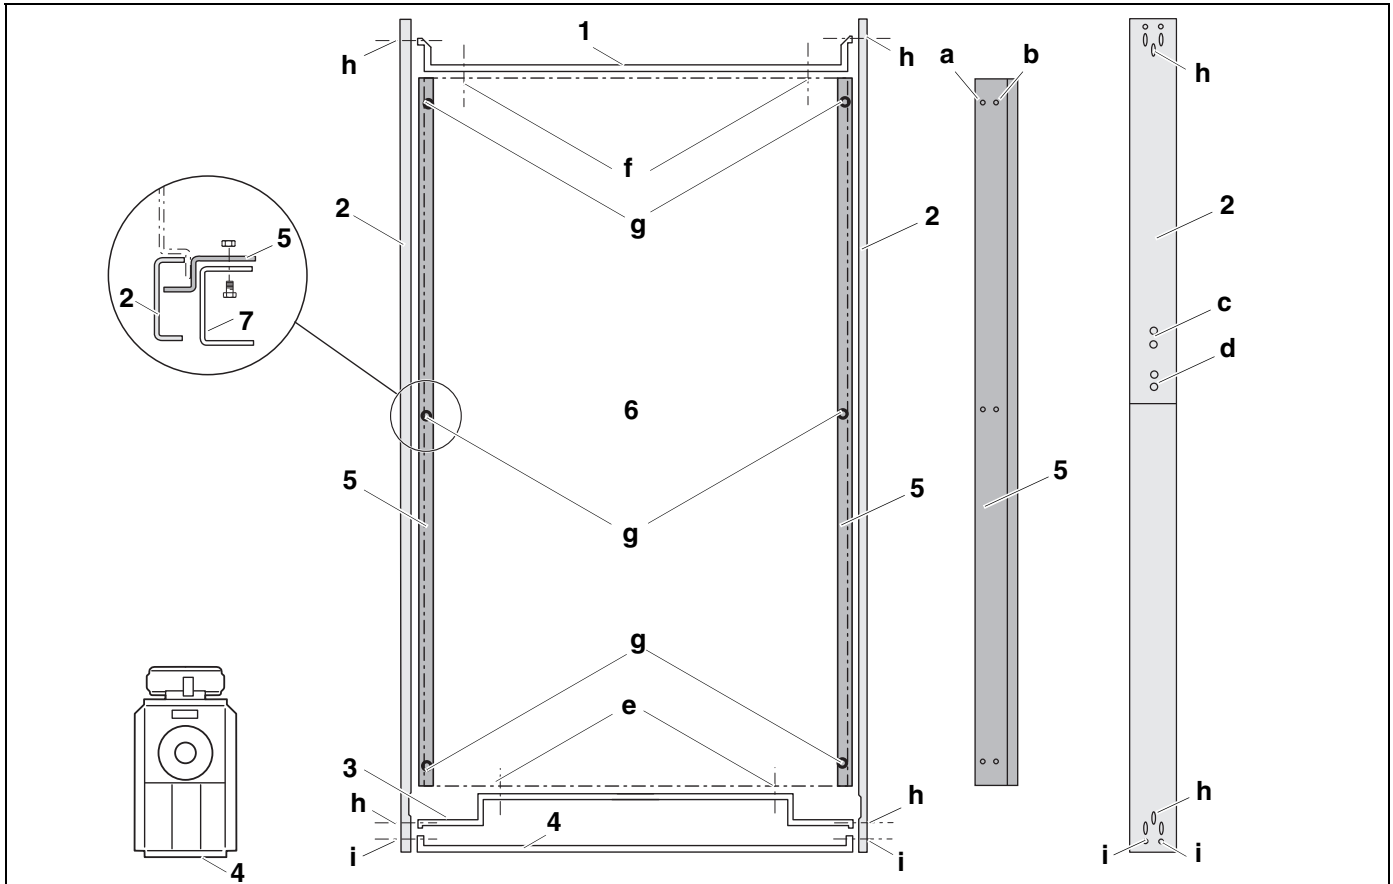

Fig. 20 Lower connection plates (plan view)
For the following steps, refer to Fig. 20, page 25.
- The blue side plinth panels (Fig. 20, [2]) are in two parts and must be preassembled (Fig. 20, [d]): position of screws for 790 kW and Fig. 20, [c]: position of screws for 970 kW and 1200 kW boiler sizes.
- Screw [h] left and right-hand plinth panels (Fig. 20, [2]) to front and rear connection plates (Fig. 20, [1] and [3]) using 1 bolt for each.
- Screw blue plinth panel at the front (Fig. 20, [4]) to left and right-hand plinth panels (Fig. 20, [2]) using 2 bolts for each (Fig. 20, [i]).